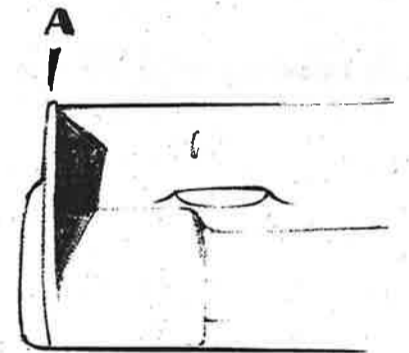

FIG. 3
M.A.C. is developing a new series of race shells (Fig. 3) which are designed to run without added air devices. I have been working with M.A.C.'s Lloyd Asbury, designing and developing these. We also had the help of a couple of noted aerodynamicists who are involved with a notable race car manufacturer. They are a